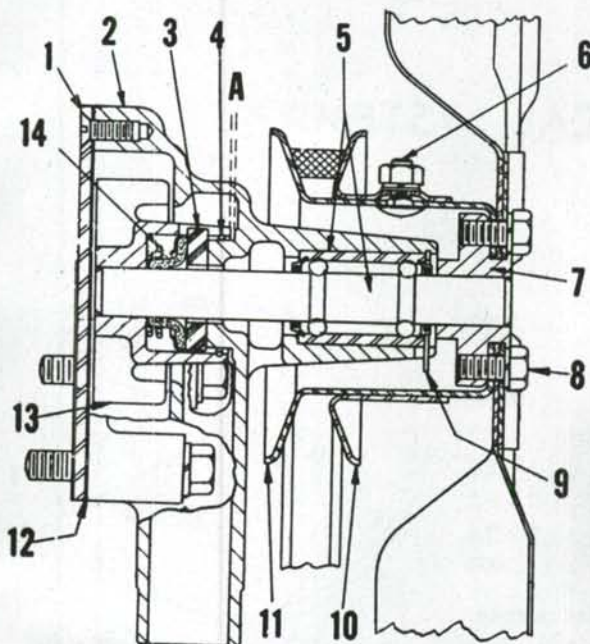

Fig. AC53A — Models B, C, CA, and RC water pump assembly. When pressing impeller on pump shaft, allow 1/16 inch impeller clearance as shown at (A).
136. **OVERHAUL B-C-CA-RC.** To disassemble pump, remove fan blades, pulley, and rear cover. Attach a suitable puller to tapped holes in impeller (13—Fig. AC53A), and pull impeller from shaft (5). Carbon thrust washer (3) and seal assembly (14) can be removed from impeller after removing snap ring (4) from impeller. Shaft and bearing assembly (5) and fan hub flange (7) can be pressed out of front of pump body after removing bearing lockwire (9). Shaft can be pressed out of fan hub.